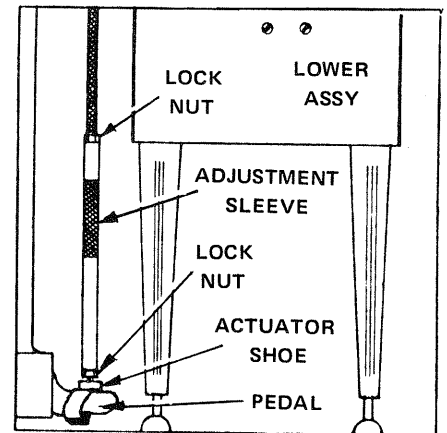

FIGURE 9-51 Pedal Actuator adjustment parts.
- P. Check to see that the Hammers are lifted 1/2" by the Hammer Rail when the Solenoid functions or that the keys shift properly. If they do, proceed to Point 'X' on page 152. If they do not function properly, loosen the Lock Nuts at the top and bottom of the Actuator Adjustment Sleeve (See FIGURE 9-51), turn the Adjustment Sleeve CLOCKWISE to SHORTEN or COUNTERCLOCKWISE to LENGTHEN the Actuator until the Hammers are lifted 1/2" by the Solenoid, then tighten down the Lock Nuts. Proceed to Point 'X' on page 152.